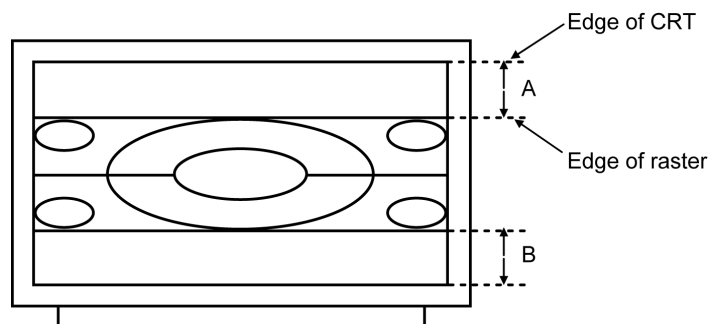

Fig. 1
- c. Confirm that A, B in Fig. 1 is $4.0\text{ cm} \pm 1.5$, if not, adjust V-ZOOM.
- c. Confirm that A, B in Fig. 1 is *a, if not, adjust V- ZOOM.